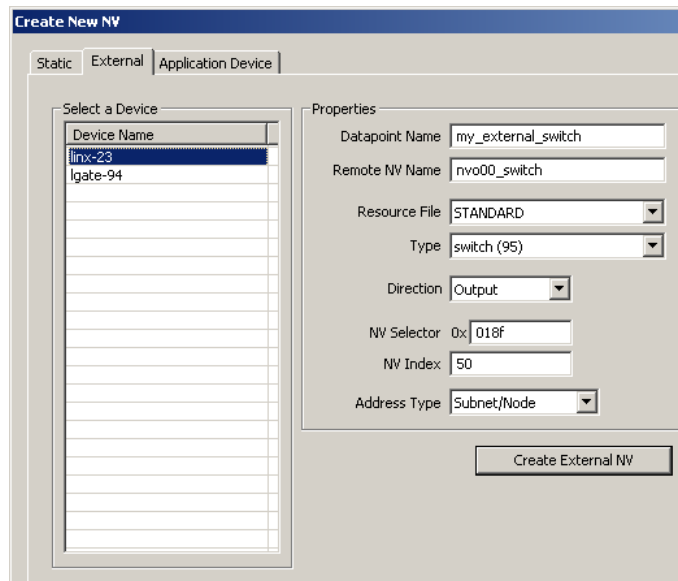

Figure 85: Create a new external NV.
3. Click on the tab **External** as shown in Figure 85.